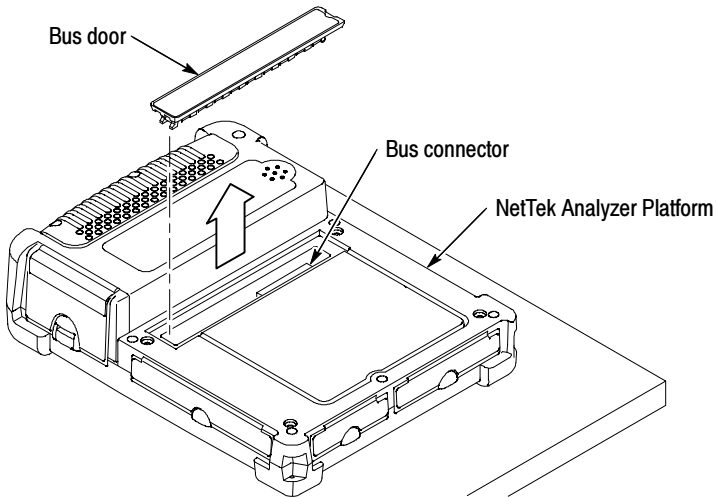

Figure 1-8: Removing the bus door
4. Remove the bus door from the rear of the NetTek Analyzer Platform or instrument module. See Figure 1-8 or 1-9.